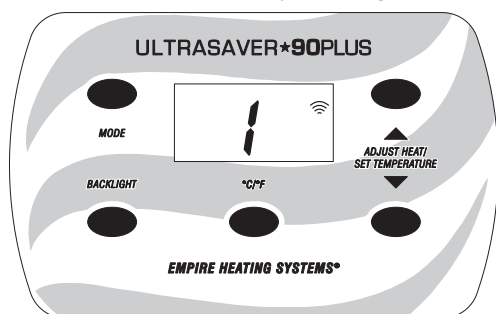

Figure 6
2. When the external control is activated, the wall furnace display panel will illuminate and show the heat level along with the remote signal symbol. The wall furnace will begin the start up sequence automatically. **See Figure 6.**